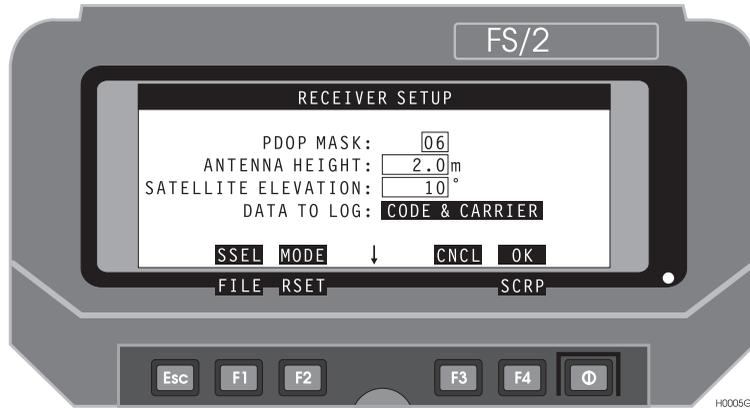

Figure 3.36: Receiver Setup Screen
10. Press F4 (RETN) to return to the GIS main menu. In the GIS main menu, press Shift F2 (RCVR), calling the Receiver Setup screen, Figure 3.36.